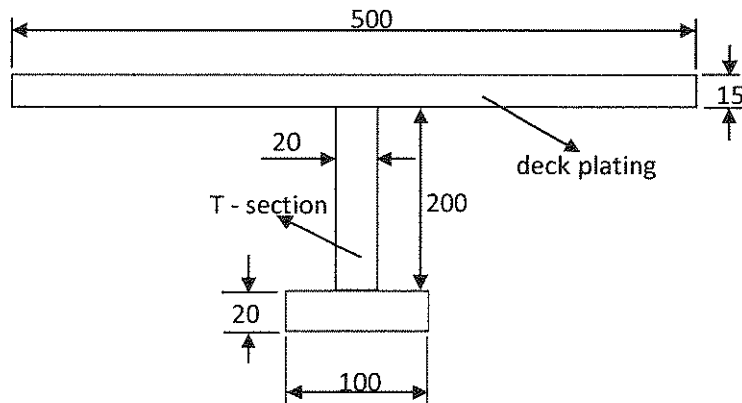

Figure 2
a) Calculate the position of the horizontal neutral axis (NA), the second moment of area (I) and the section modulus (Z) of the section above the neutral axis of a ship structure which is a combination of a deck plating and a T-section beam with the cross section as shown in Figure 2.